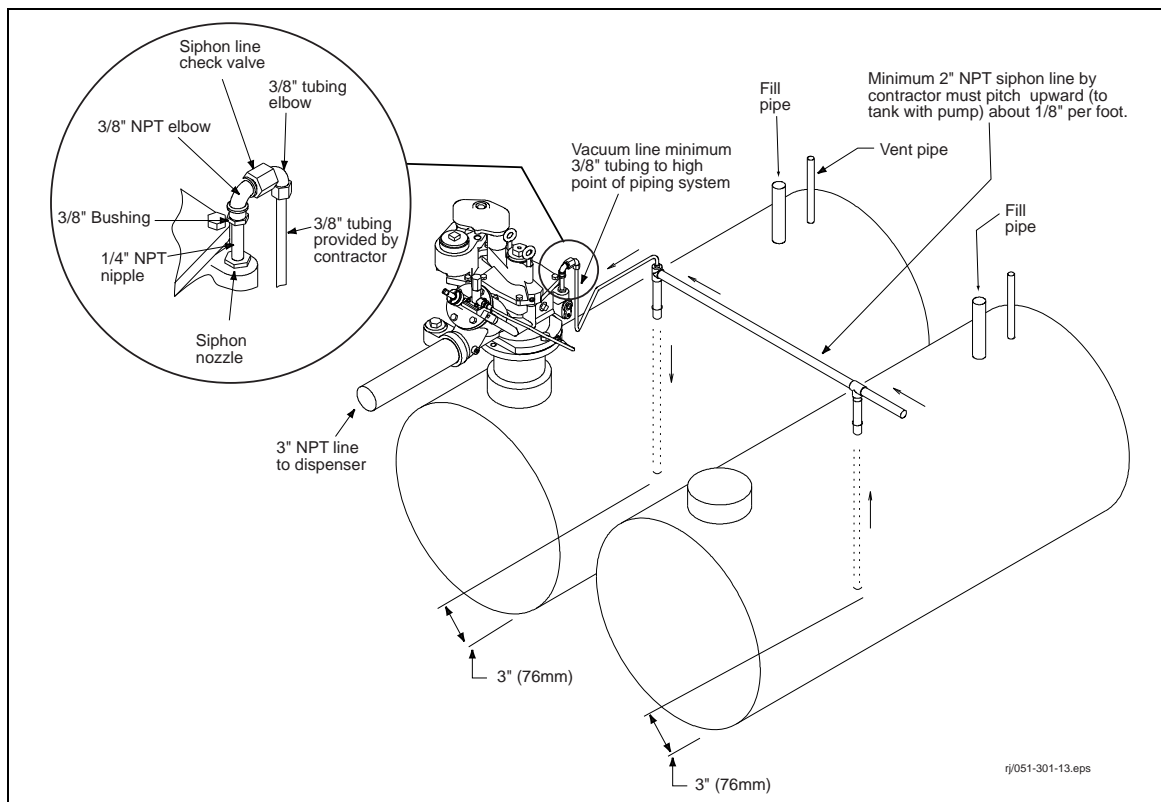

Figure 11.
1. If a siphon system is required, each pump must have 3/8 inch siphon vacuum line attached to the same location on the siphon line (reference Figure 11).